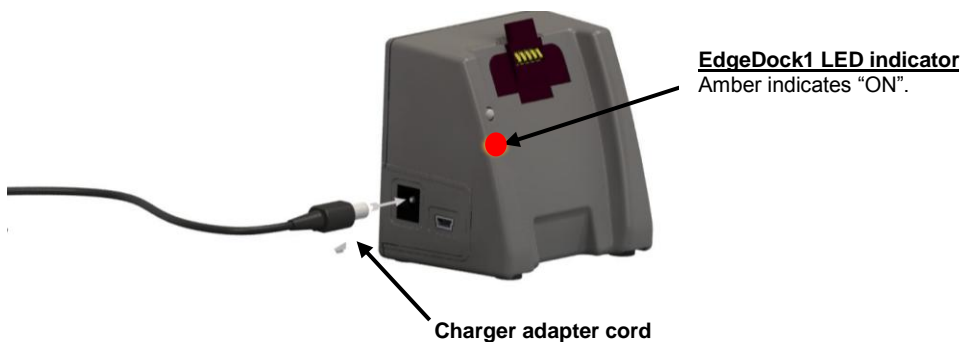

Figure 2-6: Attaching charger adapter to EdgeDock1 and EdgeDock5
1. Plug in the power adapter to the EdgeDock. (See Figure 2-6, page 13.)